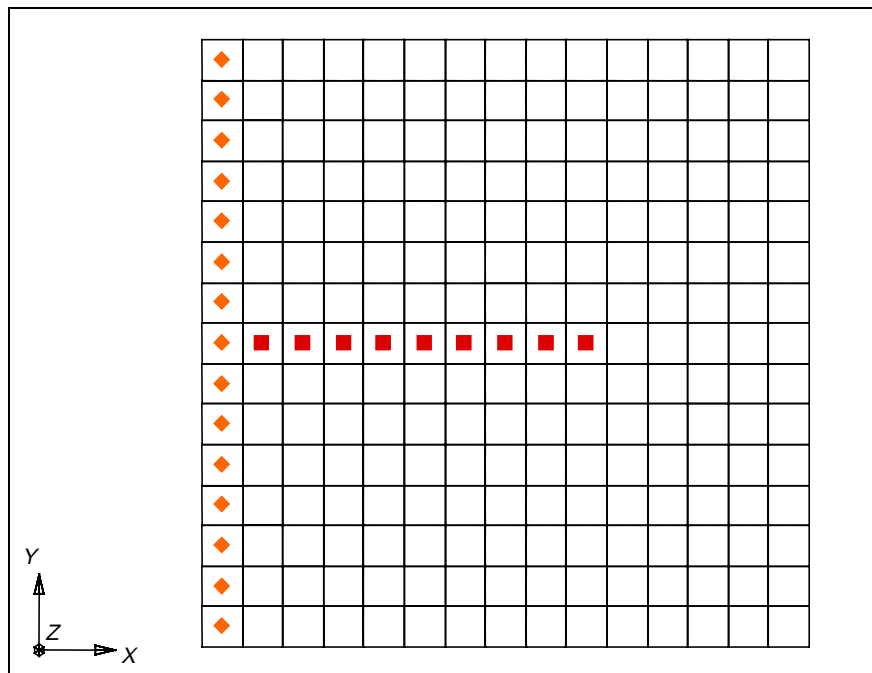

Figure 6.2 Cells to be Selected.
3. Hold down the *Shift* key to invoke the multi-select mode and select the cells on columns 3-10 of the same row as the cell you have already selected (Figure 6.2).